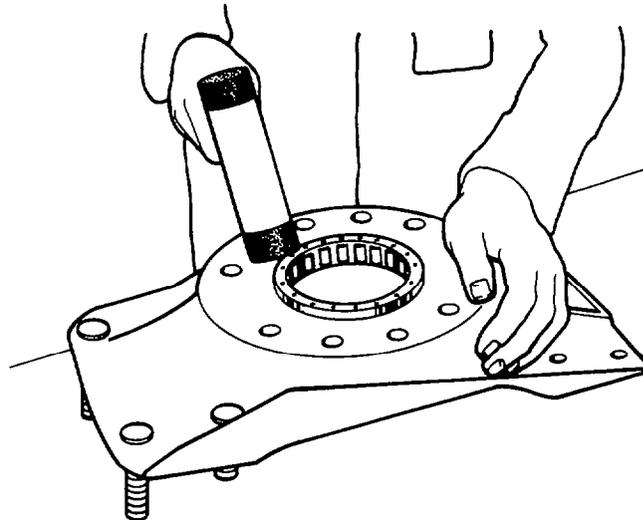

Fig. 372 — Installing Bearing
- m. Lubricate the spindle bearing with fresh OEP-220 oil then press the bearing into position in the spindle yoke (see fig. 372).